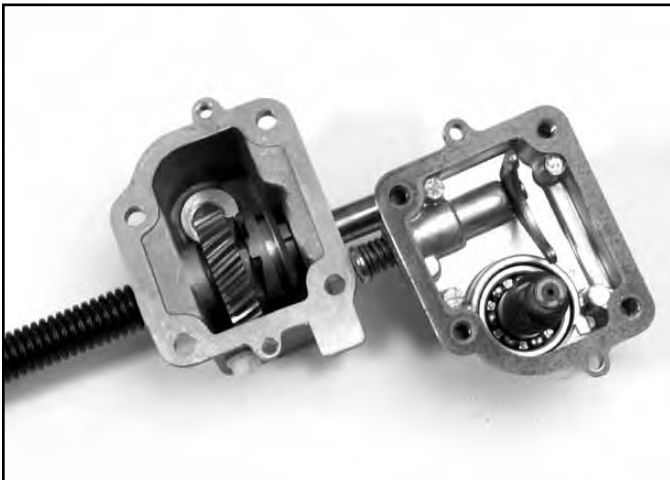

Fig 011 3428-0148
4. Remove the transmission cover. The shift fork may come with the cover or may fall into the bottom of the case (Fig. 011).